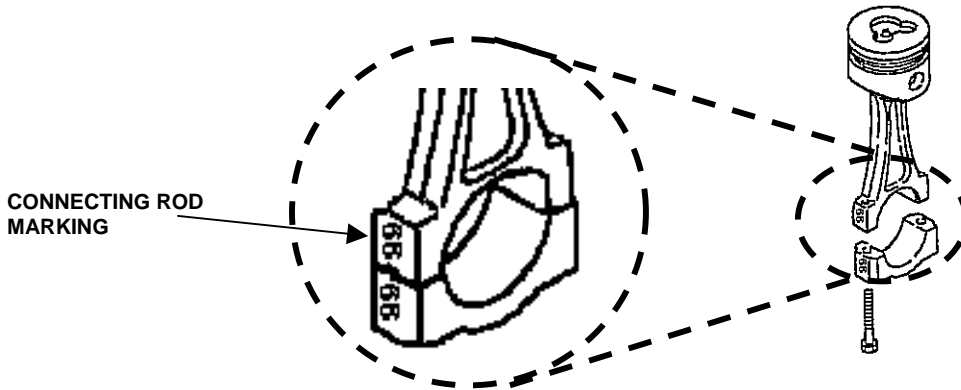

Figure 9. Connecting Rod Orientation.
4. Mate the connecting rod cap (6) to the connecting rod. Ensure to match up the markings. See Figure 9.